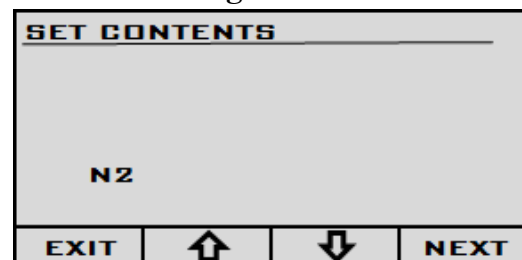

Figure 6.3.3: Select contents.
- 4) On the SET CONTENTS screen use the UP/DOWN arrow keys to select the liquid gas the tank will contain (N2, O2, Ar, CO2, N2O). Once you have selected the liquid gas press the NEXT key. (Figure 6.3.3)